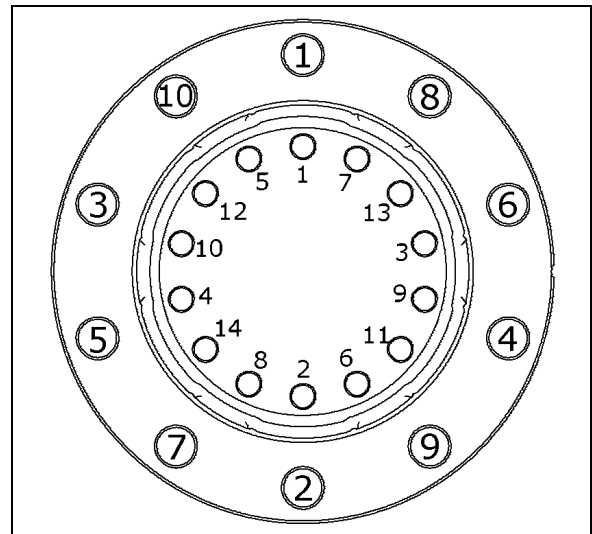

FIGURE 2: TIGHTENING SEQUENCE
It is also important that wheel stud nuts be tightened alternately on opposite sides of the wheel. Refer to Figure 2 for the suggested tightening sequence.
Tighten stud nuts progressively as shown in Figure 2. The final tightening should be done with a torque wrench. Tighten stud nuts to 450 - 500 lbf-ft (610 - 680 Nm) for steel wheels.
2. Screw in the hex stud nuts (refer to Figure 2 for sequence) so that wheel will position itself concentrically with hub. This is important, otherwise wheel may be eccentric with hub and will not run straight. In this initial step, slightly tighten the nuts to correctly position the wheel;
3. Tighten stud nuts progressively as shown in Figure 2. The final tightening should be done with a torque wrench. Tighten stud nuts to 450 - 500 lbf-ft (610 - 680 Nm) for all steel wheel.
With inner and outer wheels installed, tighten the stud nuts progressively as shown in Figure 2. The final tightening should be done with a torque wrench. Tighten stud nuts to 450 - 500 lbf-ft (610 - 680 Nm) for all steel wheel.
Repeat for each of the 10 "hex stud nuts" according to the tightening sequence in figure 2.
Using a calibrated torque wrench, tighten wheel nuts to 450 - 500 lbf-ft (610 - 680 Nm) of torque. Do not use power tools or long bars for tightening. Tighten wheel nuts alternately as shown in figure 2.